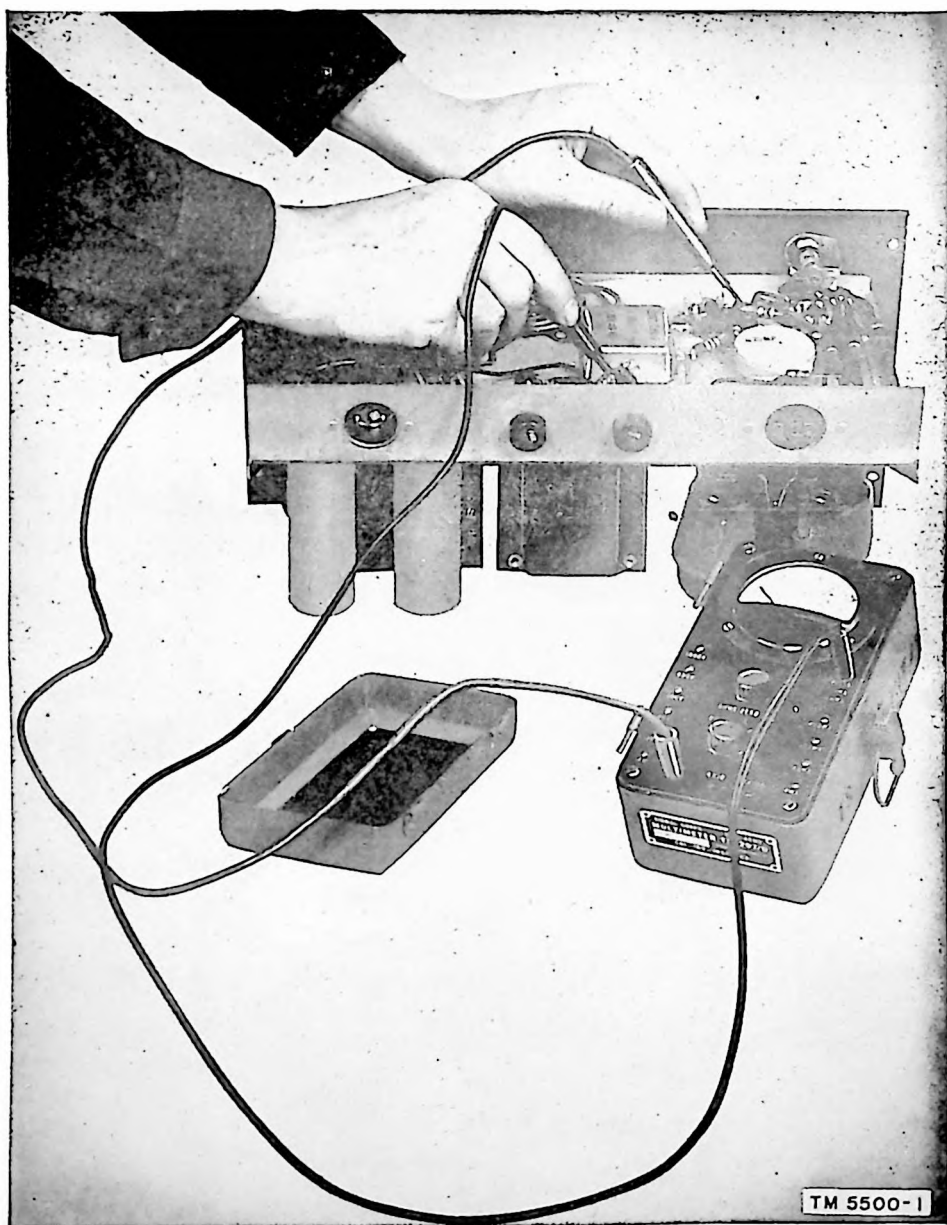

Figure 1. Multimeter TS-297/U in use.
a. Place the multimeter horizontally (fig. 1) and observe the meter. The pointer should rest over both left zeros when viewed from directly above.